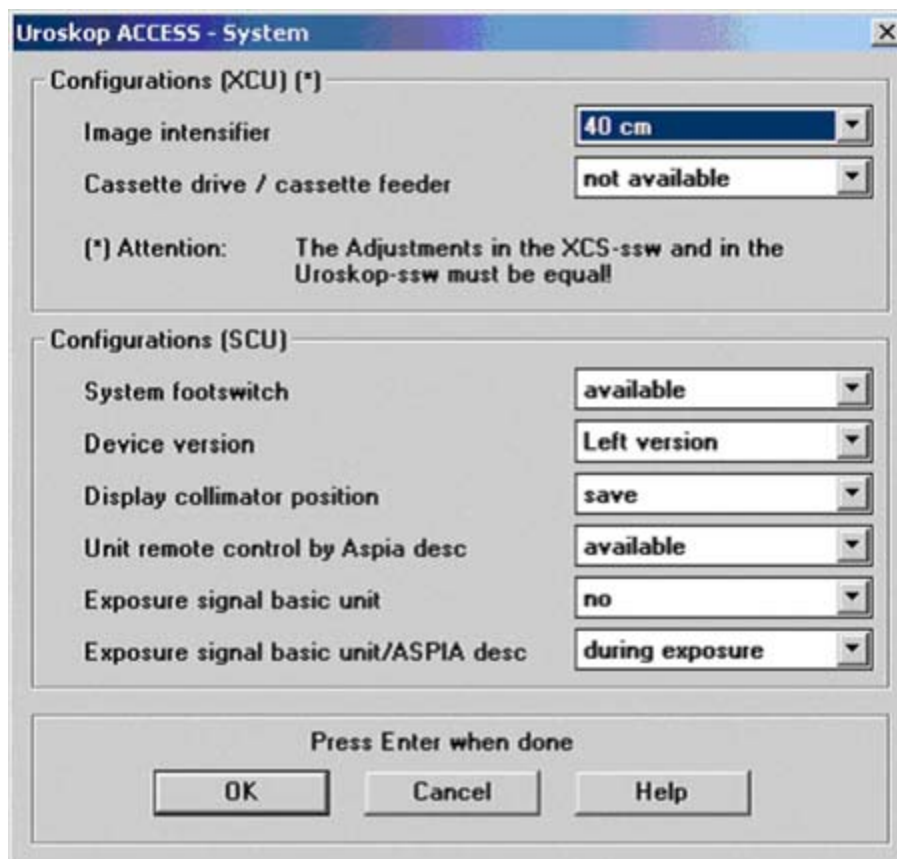

Fig. 18:
- Select **System > Configurations** and note the displayed data (Fig. 18 / p. 40).